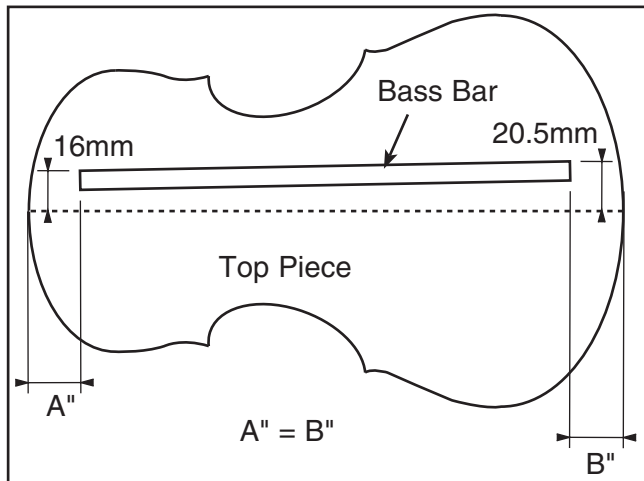

Figure 4. Bass bar location.
1. Dry fit the the bass bar on the back of the top piece, at the location shown in **Figure 4**. Note—*The thickest part of the bass bar is positioned towards the butt of the violin.*